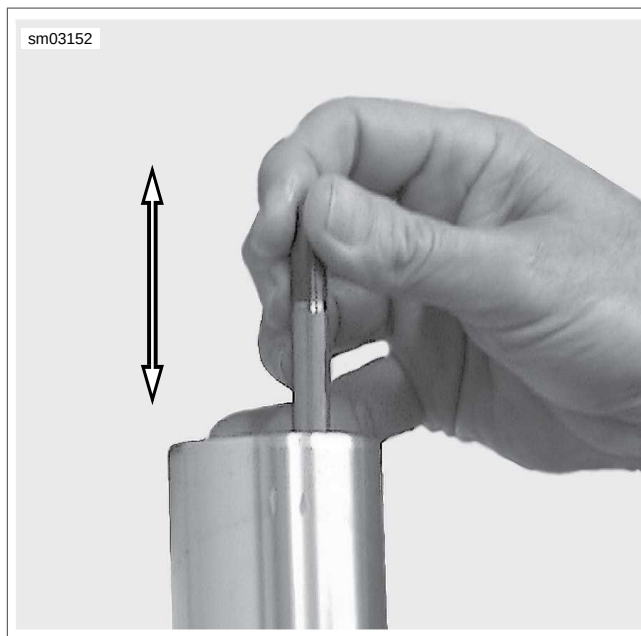

Figure 1-84. Pump Cartridge
10. See Figure 1-84. Slowly pump cartridge 8 to 10 times to exhaust air from assembly.